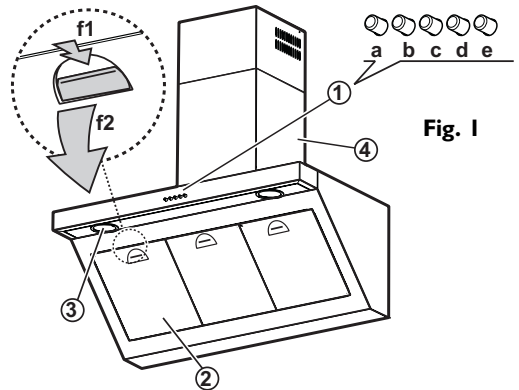

Fig. 1
2. Remove the grease filters - **Fig. 1**: pull the spring release handle (**f1**) downwards, then remove the filter (**f2**).